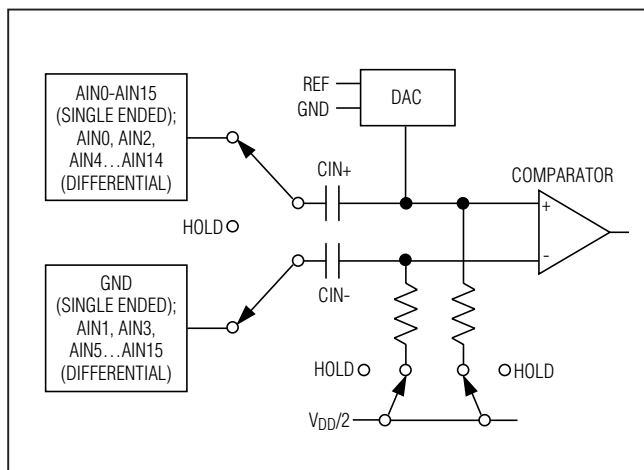

Figure 3. Equivalent Input Circuit
**Note 6:** See Figure 3 (Input Equivalent Circuit) and the *Sampling Error vs. Source Impedance* curve in the *Typical Operating Characteristics* section.
The MAX1226/MAX1228/MAX1230 use a fully differential ADC for all conversions. The analog inputs can be configured for either differential or single-ended conversions by writing to the setup register (see Table 3). Single-ended conversions are internally referenced to GND (Figure 3).
The equivalent circuit of Figure 3 shows the MAX1226/MAX1228/MAX1230s' input architecture. In track mode, a positive input capacitor is connected to AIN0–AIN15 in single-ended mode (and AIN0, AIN2, AIN4...AIN14 in differential mode). A negative input capacitor is connected to GND in single-ended mode (or AIN1, AIN3, AIN5...AIN15 in differential mode). For external track-and-hold timing, use clock mode 01. After the T/H enters hold mode, the difference between the sampled positive and negative input voltages is converted. The time required for the T/H to acquire an input signal is determined by how quickly its input capacitance is charged. If the input signal's source impedance is high, the required acquisition time lengthens. The acquisition time,  $t_{ACQ}$ , is the maximum time needed for a signal to be acquired, plus the power-up time. It is calculated by the following equation: